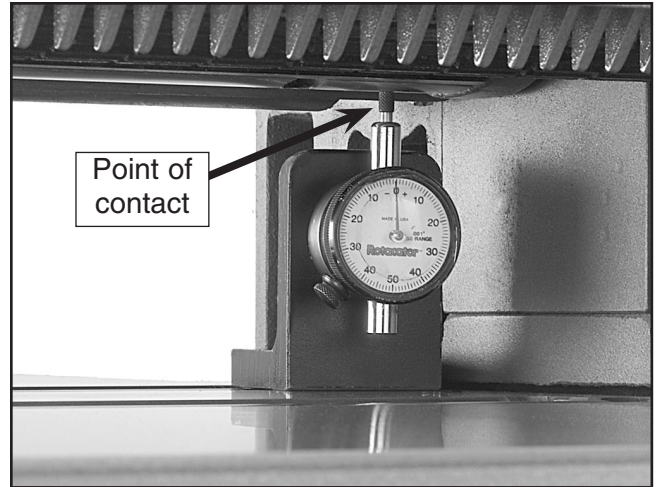

Figure 12. Rotacator measuring cutterhead/table for being parallel to each other.
3. Set the Rotacator® dial to .000". Place the Rotacator® under the cutterhead on one end. Turn the cutterhead so the plunger on the Rotacator® will contact the cutterhead body as shown in **Figure 12**. Raise the table up enough for the cutterhead to get a reading on the dial.